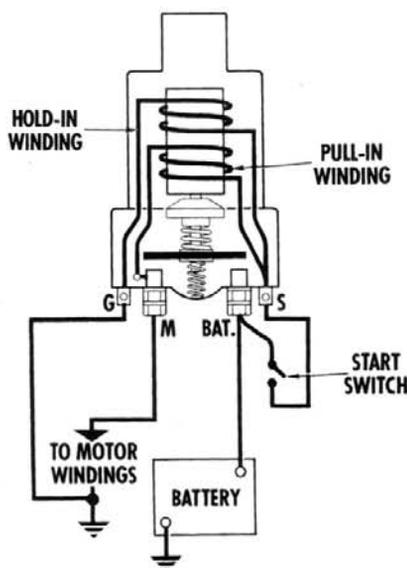
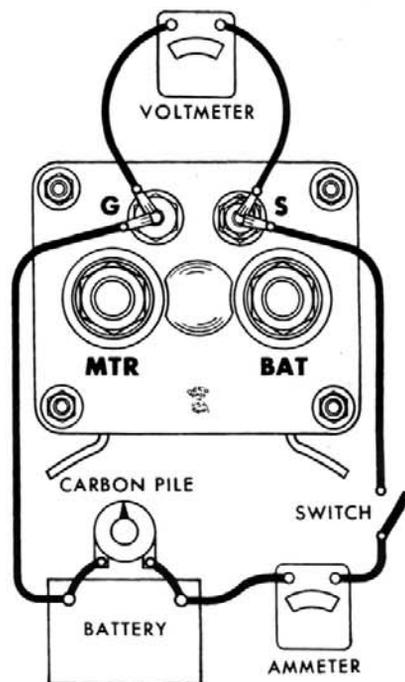
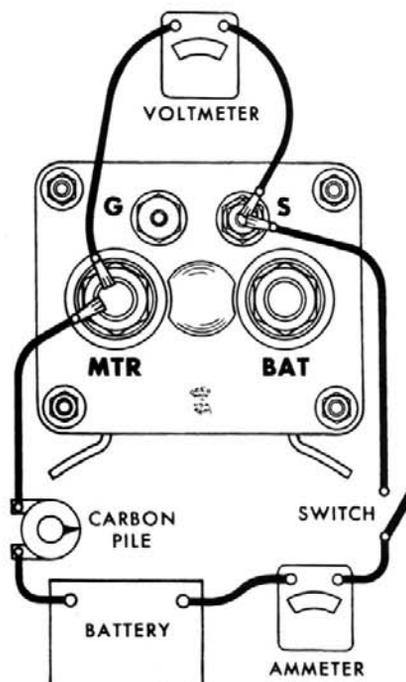

Figure 8—Internal solenoid circuit. ("G" and "S" terminals moved to clarify illustration.)
Figure 9—Checking solenoid hold-in winding
Figure 10—Checking solenoid pull-in winding
A basic solenoid circuit is shown in Figure 8. Solenoids may differ in appearance but can be checked electrically by connecting a battery of the specified voltage, a switch, and an ammeter to the two solenoid windings. With all leads disconnected from the solenoid, make test connections as shown to the solenoid switch terminal and to the second switch terminal, (G), to check the hold-in winding (Fig. 9). Use the carbon pile to decrease the battery voltage to the value specified in Service Bulletin IS-188 and compare the ammeter reading with specifications. A high reading indicates a shorted hold-in winding, and a low reading excessive resistance. To check the pull-in winding connect from the solenoid switch terminal (S) to the solenoid motor (M or MTR) terminal (Fig. 10).
To check for grounds, move battery lead from "G" (Fig. 9) and from "MTR" (Fig. 10) to solenoid case, (not shown). Ammeter should read zero. If not, winding is grounded.